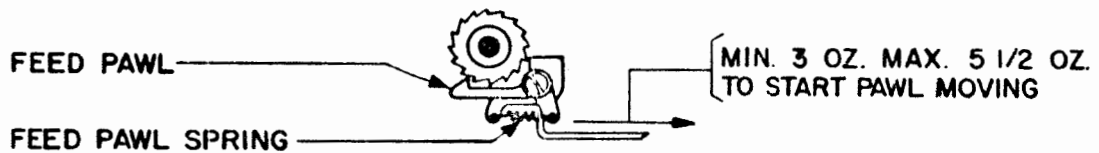

Figure 7
3.08 Feed-pawl Spring: It should require minimum 3 ounces, maximum 5-1/2 ounces to start the feed-pawl moving. (See Figure 7.)